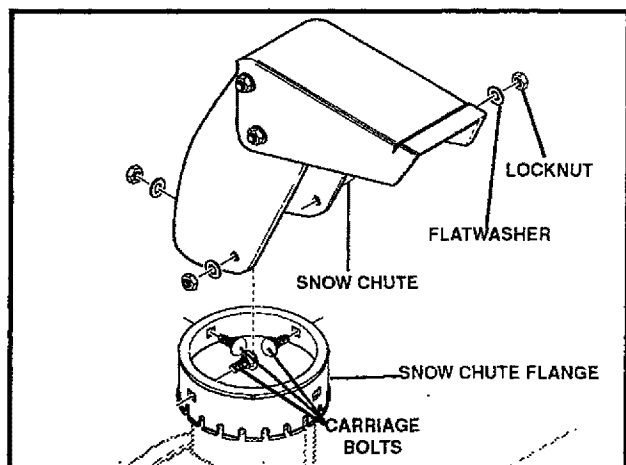

FIG. 7A
- Position snow chute on snow chute flange and align the three holes in the snow chute with holes in the snow chute flange (See FIG. 7A).
- Replace carriage bolts from inside of chute as shown in FIG. 7A, flat washers, and nuts.